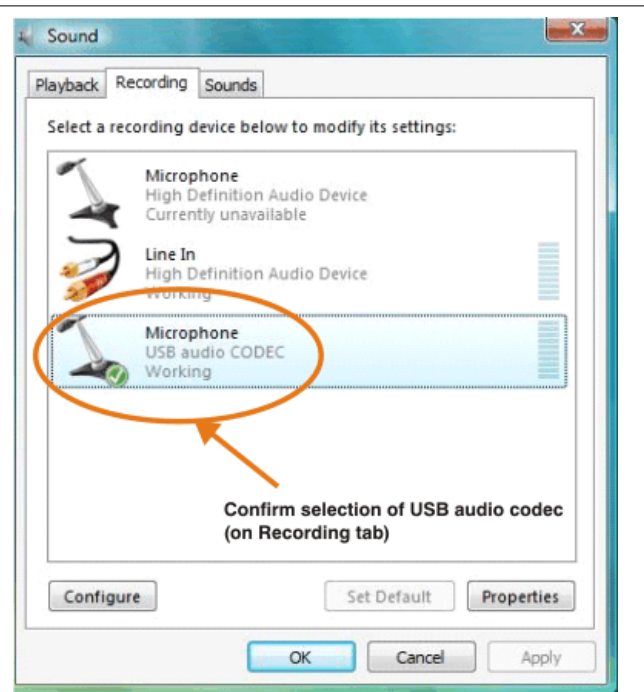

Figure 3-2. Sound—Recording Tab(Windows)
4. Select the recording tab and confirm the USB audio codec appearance as the default recording device, as shown in Figure 3-2.